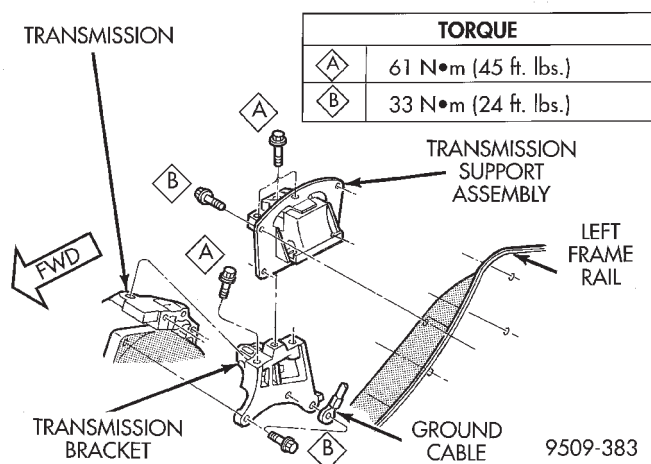

Fig. 21 Typical Engine Mounting—Left
- (1) Support the transmission with a transmission jack.
- (2) Remove the three vertical bolts, from the mount to the transmission.
- (3) Remove the transmission mount fasteners and remove mount.
- (4) Reverse removal procedure for installation. Refer to (Fig. 21) for bolt tightening specifications.
- (5) Engine support assemblies adjustment, Refer to Engine Support Assembly Adjustment of this section.